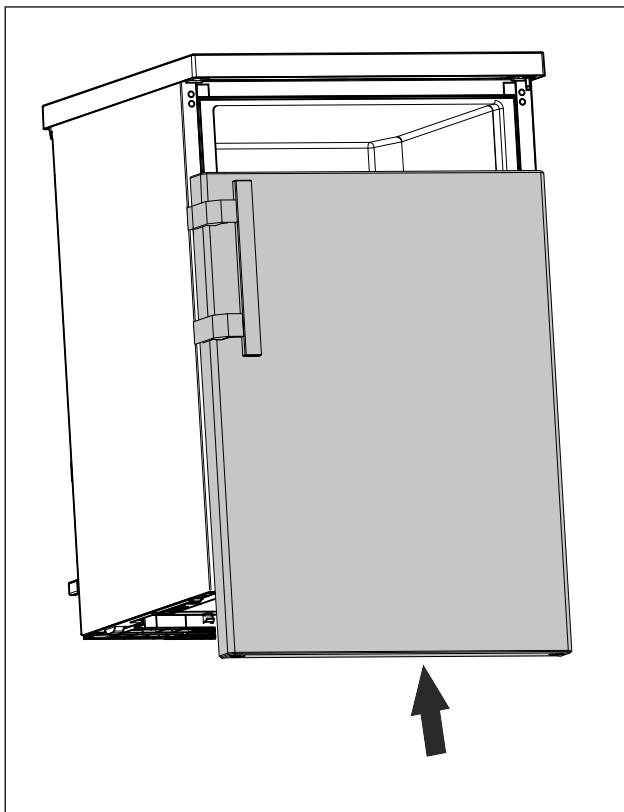

Fig. 19
- Slide the door onto the upper bolt in closed status. (see Fig. 19)